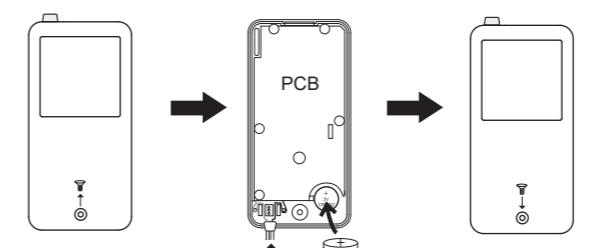

Fig.13
3. Remove exhausted battery and insert new 3V CR2032 battery in the correct polarity. (see Fig. 13)